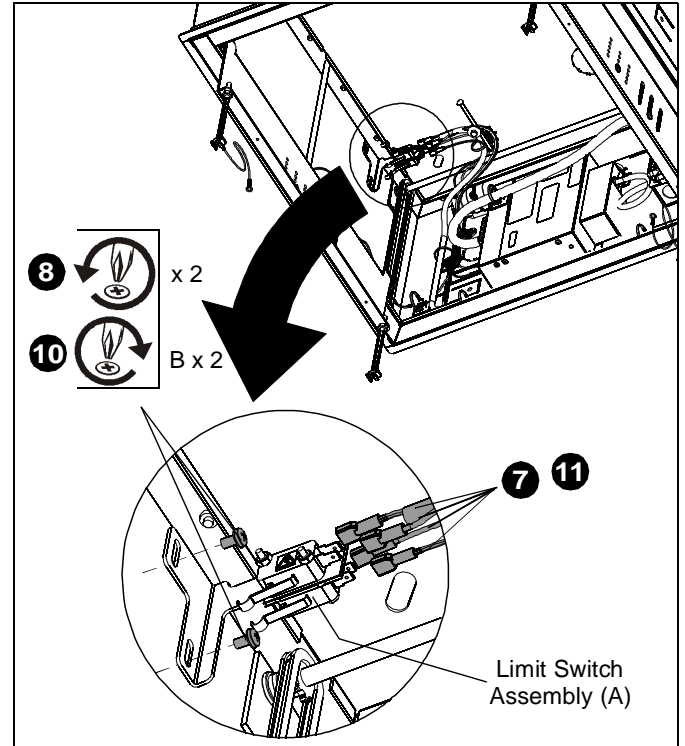
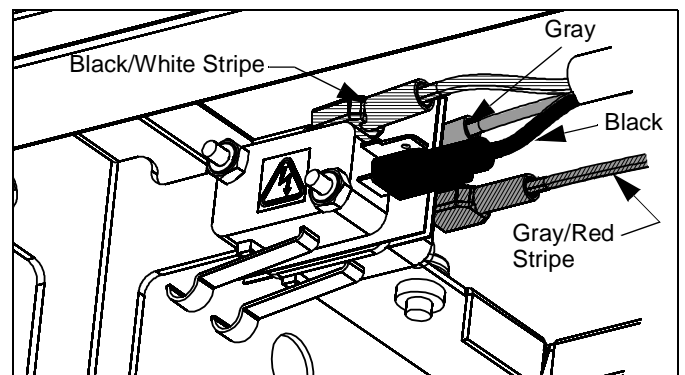

Figure 2
Figure 3
7. Remove four wires from switches being careful to note their position on switches. (See Figure 2)
8. Remove two Phillips head screws from limit assembly. (See Figure 2)
10. Install the new limit switch assembly (A) and fasten using two Phillips screws (removed in Step 8 of **Removing Retract Limit Switch** section), or two Phillips 8-32 x 5/16" screws (B). (See Figure 2)
11. Reattach four wires to switches, being careful to reattach each to correct switch. (See Figure 2) and (See Figure 3)